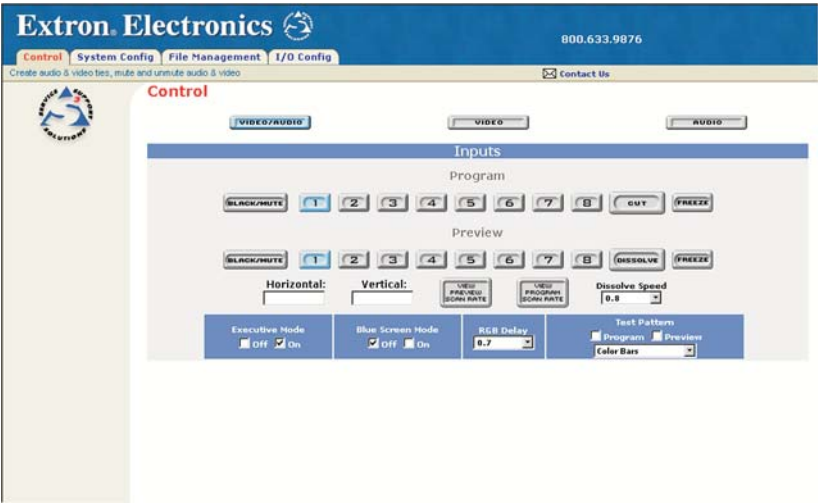

Figure 4-7— ISS Control screen
- 6. Once the IP address of the switcher has been set, click the Control button. The switcher Control screen (figure 4-7) opens.